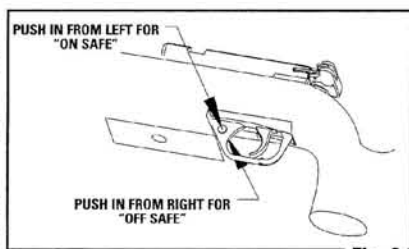

Fig. 2
- Locate the safety directly in front of the trigger (Fig. 2).